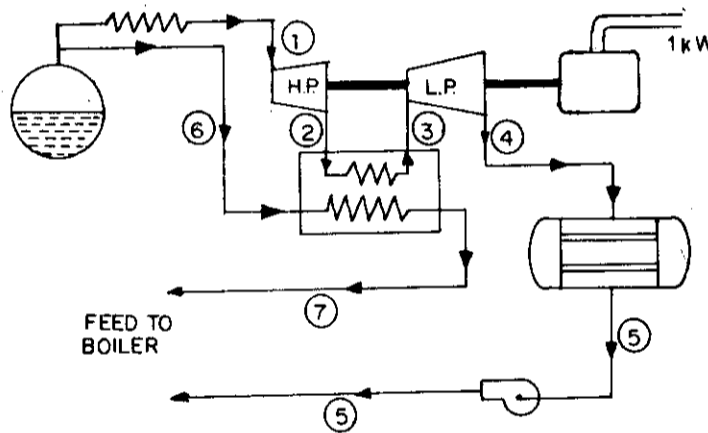

Fig. Prob. 22.8 (a).
**Solution.** The arrangement of the components is shown in Fig. Prob. 22.8 (a).
The conditions of steam passing through different components are represented on  $h-s$  diagram as shown in Fig. Prob. 22.8 (b).